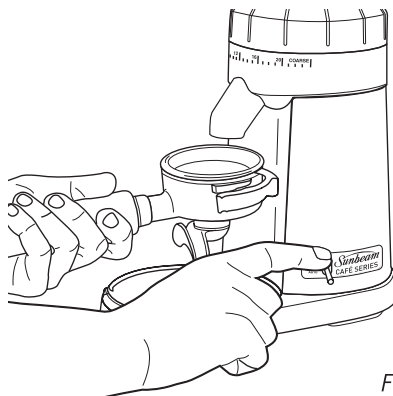

Figure 6
12. Flip the switch to the 'Auto' position, see Figure 6.